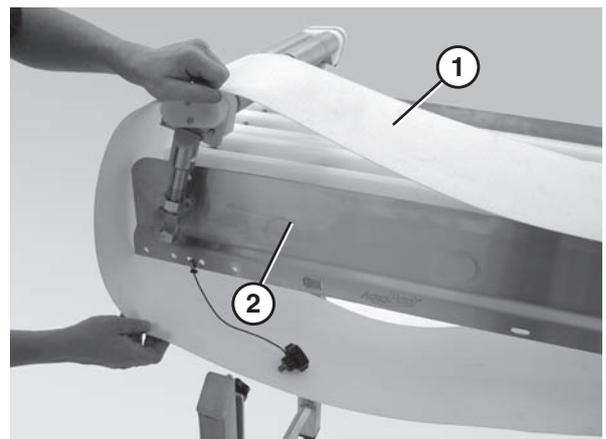

Figure 19
- Slide the belt (Figure 19, item 1) on over the conveyor frame (Figure 19, item 2).